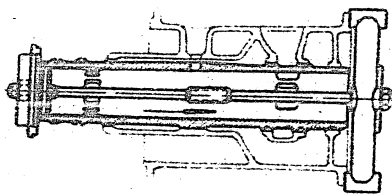

Fig. 24
2. Press the engine cylinder in the engine casing by means of a special tool (see Fig. 24).